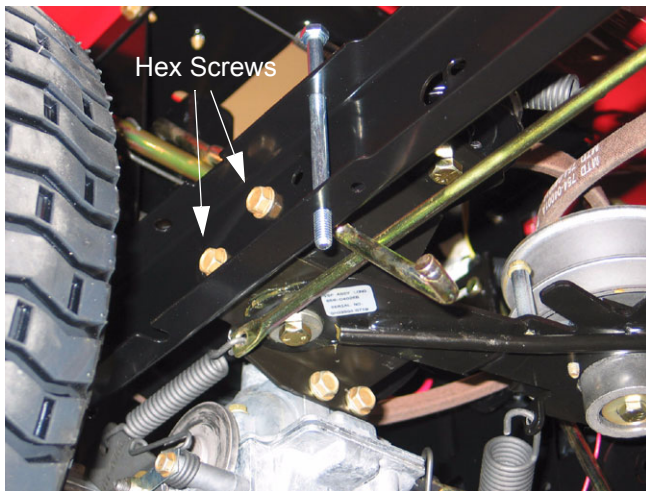

Figure 41
- 10.3. Using a 1/2" socket, remove the two screws securing the torque bracket to the frame. See Figure 41.